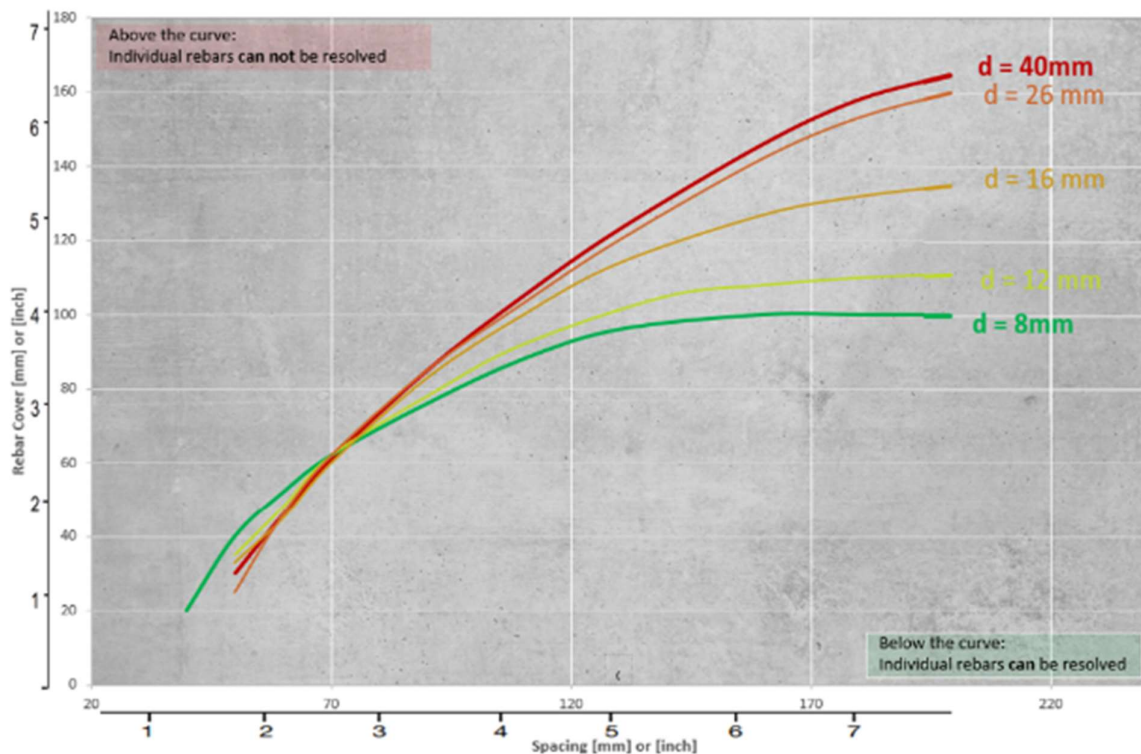

Figure 30: PM8000 Resolution Chart
- ! There is a limit to the minimum spacing of rebars, which can be differentiated. This value is depending on the cover depth and rebar diameter. It is impossible to distinguish between individual rebars above these limits following the rebar diameters as presented in Figure 30.